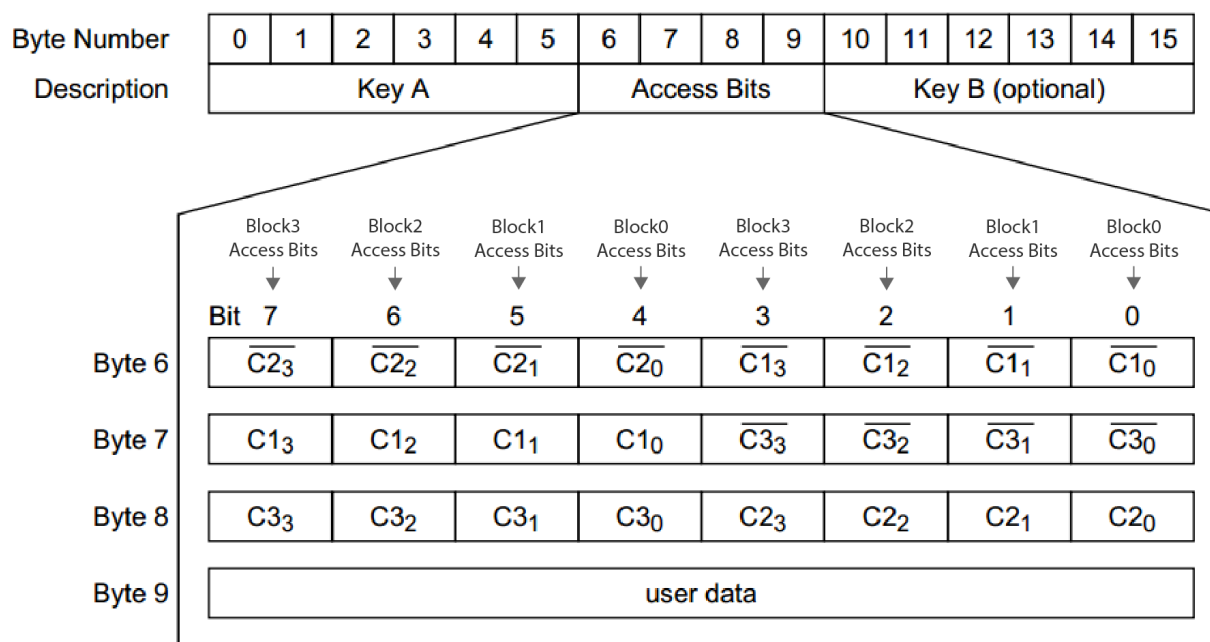

Figure 4 Format of the Access Bits
- Access bits (stored in bytes 6,7,8) should present in the sector trailer in proper format. See Figure 4 \(Format of the Access Bits\)
See also Figure 4 *Format of the Access Bits*